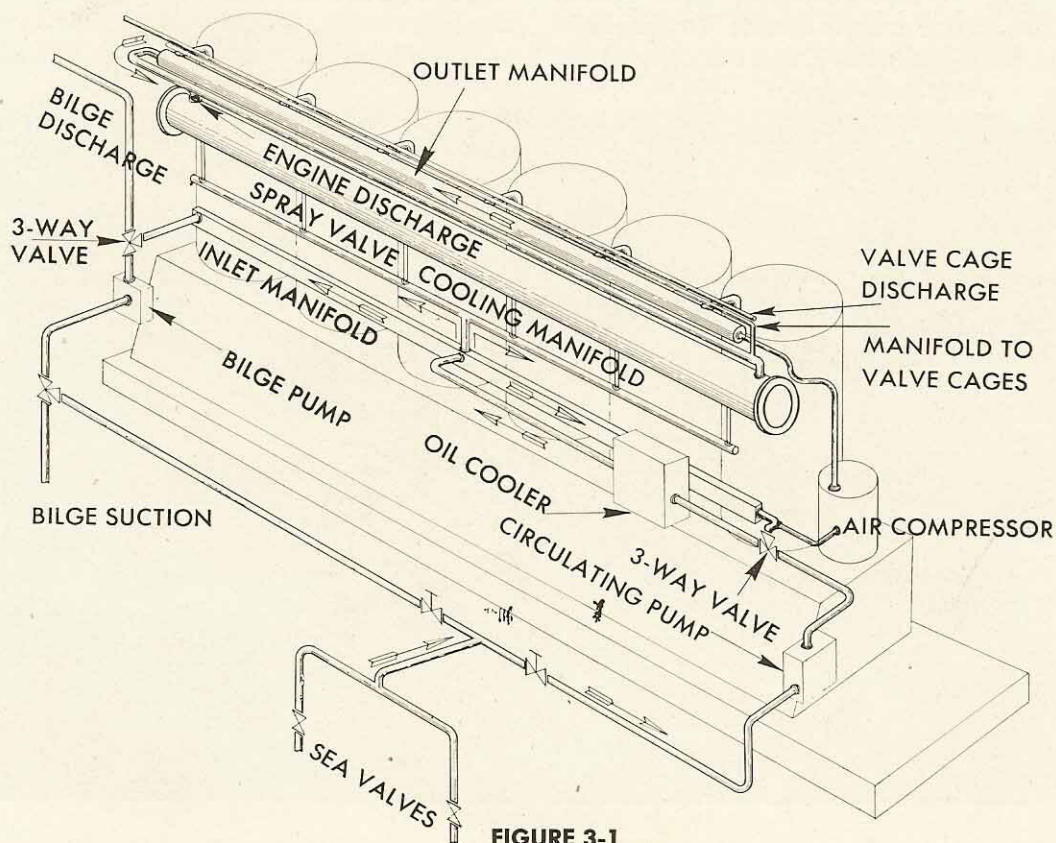

FIGURE 3-1
The principal parts and general layout of a raw-water system are illustrated in Figure 3-1.
3. RAW-WATER SYSTEM: A raw-water cooling system is the easiest to install, but it is more likely than the others to result in scale or mud deposits in the engine jackets. The essential parts of a raw-water system are: a sea valve in the ship's hull below the water line to admit water; a raw-water circulating pump; manifolds and piping on the engine; a hull fitting or opening through the hull above the water line for the discharging overboard of water; and pipe, valves and fittings for connecting the various parts of the system. Figure 3-1 shows the principal items in a raw-water system.